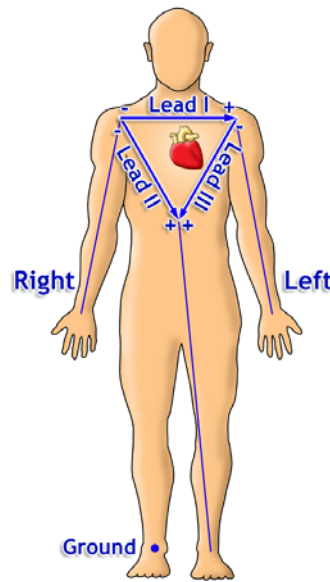

Figure 1: Einthoven Triangle LEAD Connections (Note Polarity)
- One (1) ECG100C Amplifier Modules
- Three (3) LEAD110A Electrode Leads (3 meters)
- Three (3) EL503 Electrodes
1. Prep skin, place one EL503 electrode to the Right Leg (RL) location and then place two EL503 electrodes at the below indicated locations, for the desired LEAD, as illustrated in Figure 1: